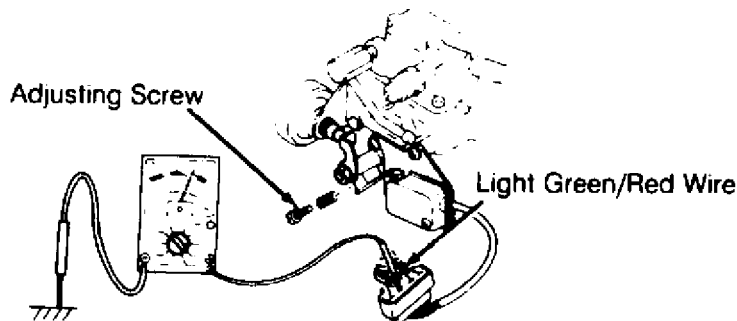

Fig. 18: Adjusting Throttle Switch (B2200 Carbureted)
1) Warm engine to operating temperature. Connect tachometer. Operate engine at idle. Using voltmeter, backprobe Light Green/Red wire terminal of idle switch connector. See Fig. 18.